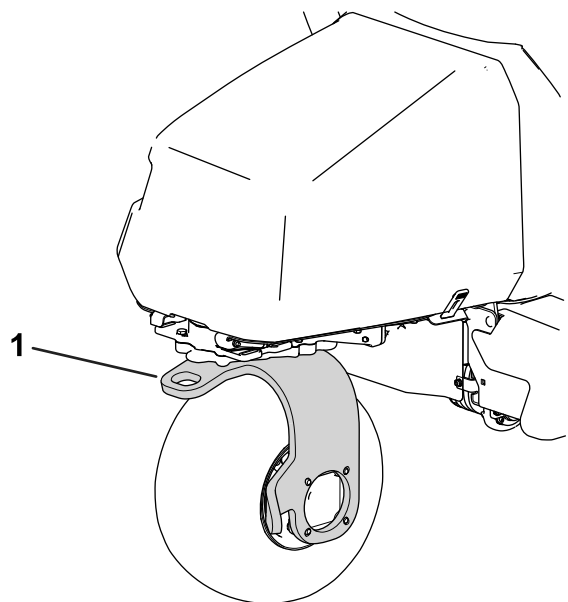

Figure 37
13. Use the rear castor fork to tow the machine (Figure 37).